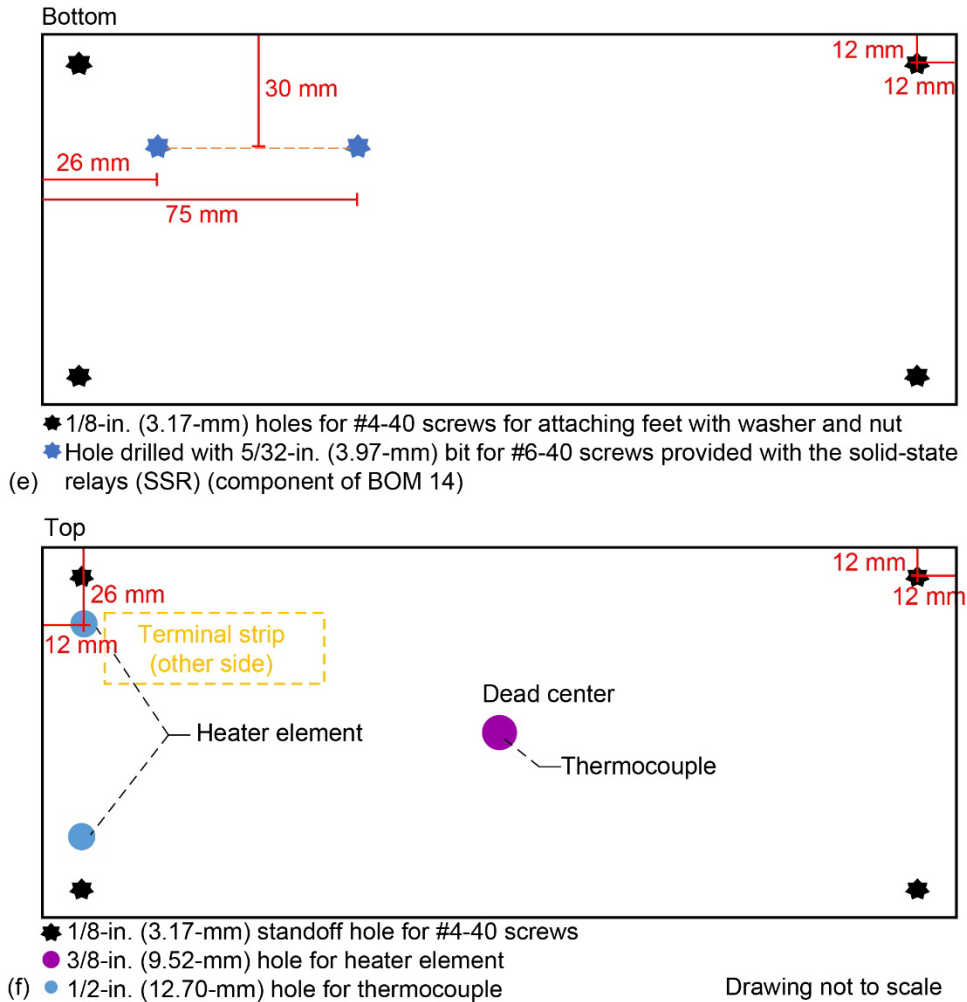

Figure 1.—Concluded.
The upper and lower halves of the aluminum project boxes are designed to slot together via a tongue and groove connection on the side panels. To ensure the halves of the 45- by 45-mm cutout for the proportional integral derivative (PID) temperature controller for the black box indicated in Figure 1(c) will be properly aligned after cutting, mark the square on the outside of the box with the top and bottom halves slotted together.
Drill holes in the front and back panels as indicated in Figure 1(c) and (d). The four holes at the corners of these panels are predrilled. Use a 1/8-in. (3.17-mm) titanium-itrade-coated tool steel drill bit for drilling holes for the screws that will hold the power switch in place and the holes for the power switch cutout. Use a 1/64-in. (2-mm) drill bit for the vent holes. (To ensure placement consistency if building multiple ovens at the same time, drill one front and one back panel by hand according to the printed template, then use these panels as guides for marking the locations on the other panels of the same type for use with the drill press.)
Figure 1.—Black (electronic controls) project box drill holes and cutouts. (a) Side panel with location of PID controller cutout. (b) Side panel with no drill holes or cutouts. (c) Back panel with power switch cutout and screw and vent hole locations. (d) Front panel drill hole locations. (e) Drill hole locations for bottom of black project box. (f) Drill hole locations for top of black project box. Terminal strip will later be attached to inside of top.
Drill 1/8-in. (3.17-mm) holes at points indicated from all four corners of both the bottom (Figure 1(e)) and top (Figure 1(f)) of the box.
Drill 5/32-in. (3.97-mm) and 1/8-in. (3.17-mm) holes as indicated on the bottom of the black box (Figure 1(e)). Drill 1/2-in. (12.70-mm), 3/8-in. (9.52-mm), and 1/8-in. (3.17-mm) holes as indicated in the top of the black project box (Figure 1(f)).
- Attach the terminal strip to the inside surface of the top of the black project box (BOM 15) using a hot-glue gun in the location indicated in Figure 1(f).
- Feed the heater element leads through the 3/8-in. (9.52-mm) holes and the TC lead through the center ½-in. (12.70-mm) hole in the bottom of the black box (see Figure 1(f)).